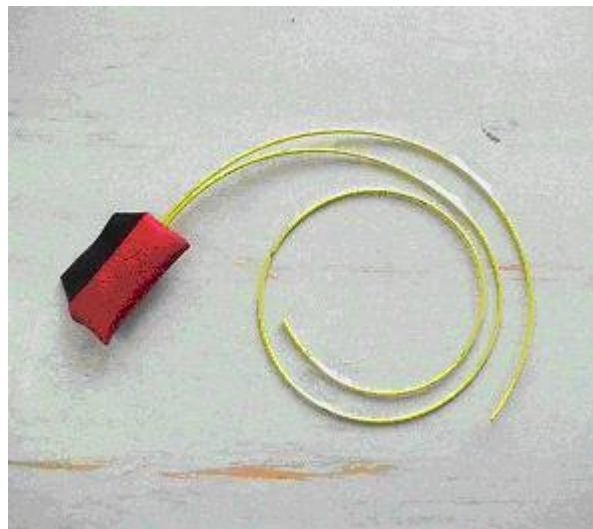

figure 4
6.4 The Three Ring Release Ripcord U – 053 (fig. 4)